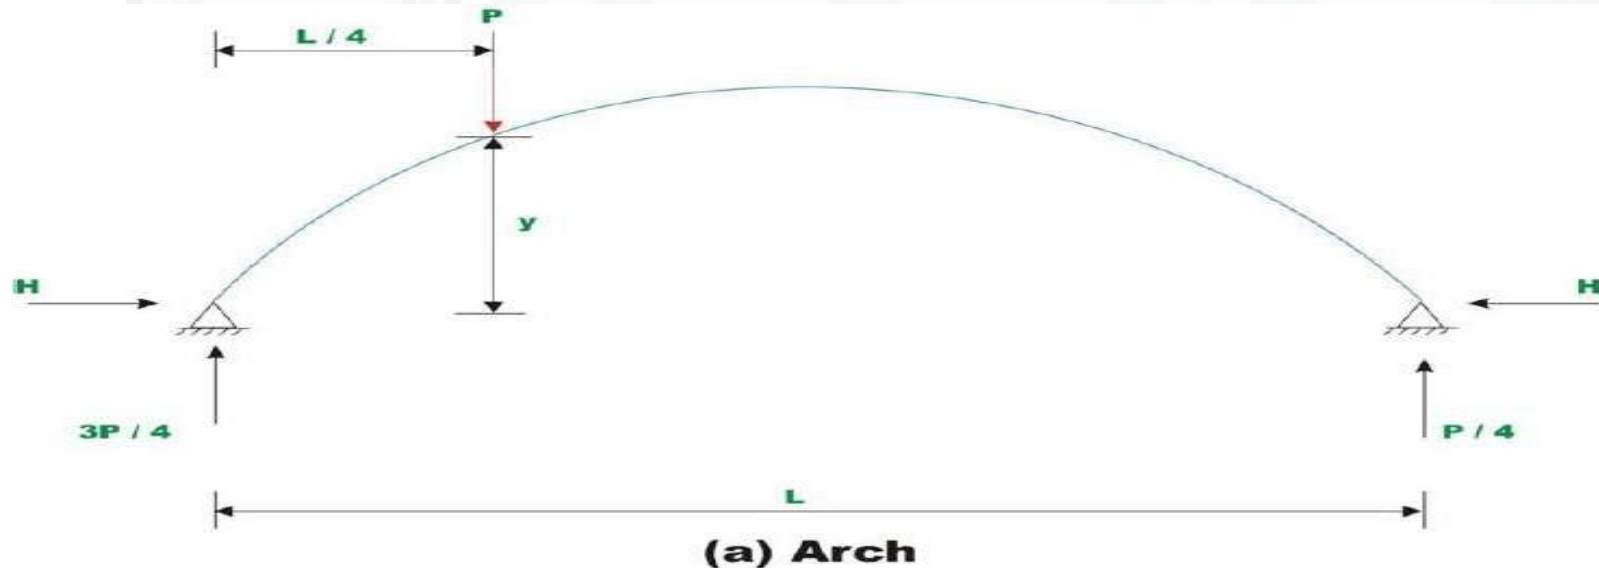

Figure 1: Beam and Arch comparison
- For example, in the case of a simply supported beam shown in Figure 1, the bending moment below the load is $3PL/16$.